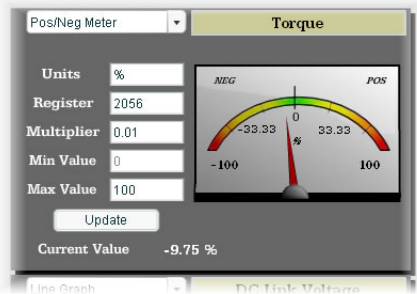

Figure 60: Pos/Neg Meter
**Pos/Neg Meter:** Refer to Figure 60. Similar to the “meter” gauge, this type of meter also implements a common panel meter-type display format, but in this instance the indicated value can be positive or negative (two’s complement interpretation). In other words, raw register values of 0..0x7FFF equate to 0..3276710, and values of 0x8000..0xFFFF equate to -32768..-1. Because the meter placard is always centered around zero, the “Min Value” attribute is not configurable, and the “Max Value” attribute is used for both the maximum positive indicated value as well as the maximum negative indicated value.